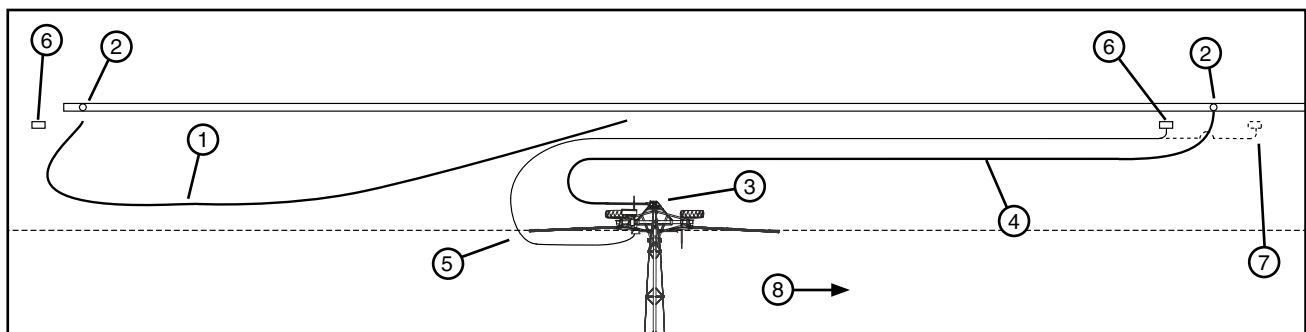

Figure 51-2 1. First Hose 3. Swivel Inlet 5. Electric Cord 7. Alternate Power Pedestal Location and Electric Cord Position
7. Disconnect the first hose from the shut off valve so that water from the hose drains away from the cart path. Then unlatch and disconnect first hose from swivel inlet. See figure 51-2.
8. With second hose connected to shut off valve, position second hose, connect to swivel inlet and latch in place. Reposition the end of field/hose stop for the length of the second hose being used. See figure 51-2.
- c) Position the electric cord far enough away from the hose, so that the hose will not drag over it. When applicable, prevent interference between the electric cord and hose by positioning the electric cord over the top of hose. See figure 51-2.